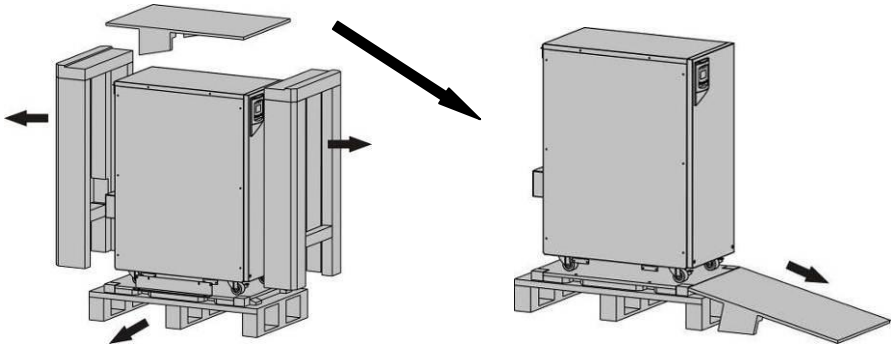

Figure 3: Inner packaging
8. Remove the foam pieces and the ramp. Take out the accessory parts (see Figure 3 left).